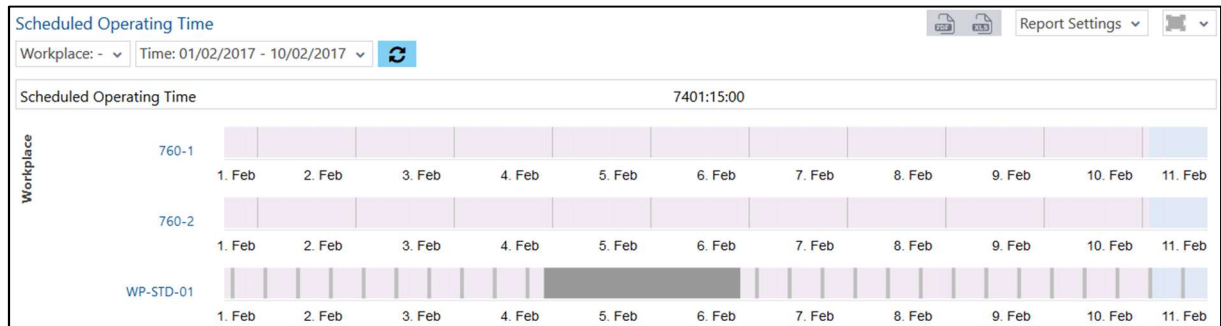

Fig. 138: Scheduled Operating Time
A real-time report on shifts for a definable period in the form of a Gantt chart for *one or more* workplaces (Fig. 138):
- Shift overview in a Gantt chart (Fig. 138):